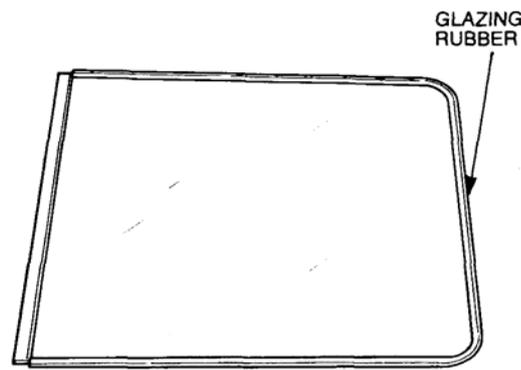

Figure 47 Fixed Window Rubber Installation
- x. Locate the rubber around the glass, ensuring that the glass is located in the groove (refer Figure 47).